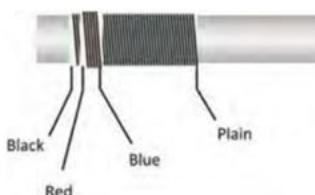
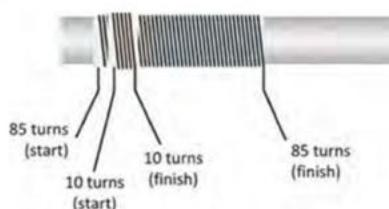

Fig.13 (left). Connections to the Rapid ferrite rod antenna
Fig.14 (right). Coil winding details for winding your own ferrite rod antenna. Wind both coils the same way
The ferrite rod antenna that forms the inductive part of the tuned circuit was mounted using two spring clips and grommets to the base plate. This component can be supplied as a ready wound transformer (Rapid part 88-3099 – see Fig.13) or can be wound on a small ferrite rod recovered from an old radio. When winding your own ferrite rod antenna it is advisable to wind the coil assembly (T1) on a tube so that it can slide along the rod in order to locate the optimum position for the required frequency coverage. You will need at least 85 turns of insulated wire for the main (tuned) winding and 10 turns over-wound for the secondary winding, as shown in Fig.14. You must wind both coils with the same sense.
sensitivity is obtained (see Fig.13 for the position that we used).
- 1 ferrite rod radio aerial (e.g. Rapid 88-3099) (T1) (see text and Fig.13)